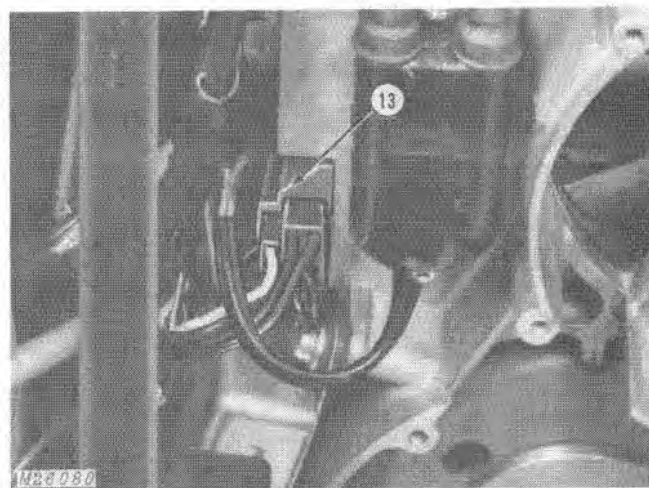

Fig. 24-Connecting Harness
13. Connect wiring harness connector, Fig. 24.